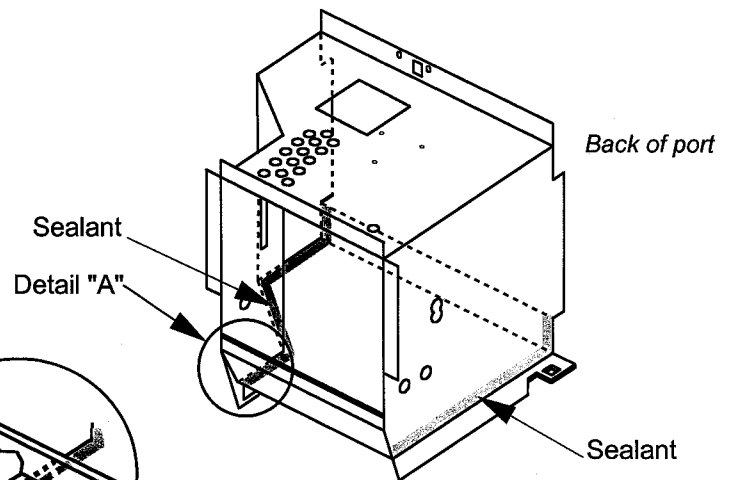

Figure 1.2
- D. Using sealant, run a bead from along each side of delivery port bottom from front to back including back vertical area but excluding front vertical area. (See Figure 1.2)